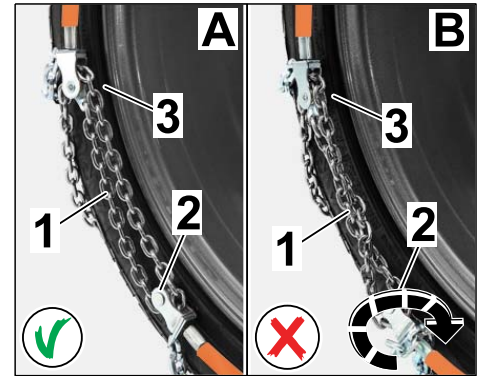

Figure 8
- 2.2.2 Check that the tensioning chain is running parallel at the tensioning point and deflection roller (end of spring steel clip on inside of wheel) (⇒ *Figure 8-A-*) and is **NOT** twisted (⇒ *Figure 8-B-*).
Turn deflection roller for spring steel clip if necessary (⇒ *Figure 8-arrow-*).